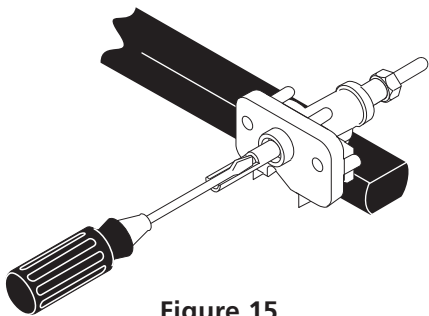

Figure 15
4. Adjust the "LOW" Setting of Regular Surface Burner Valves (Figure 15):